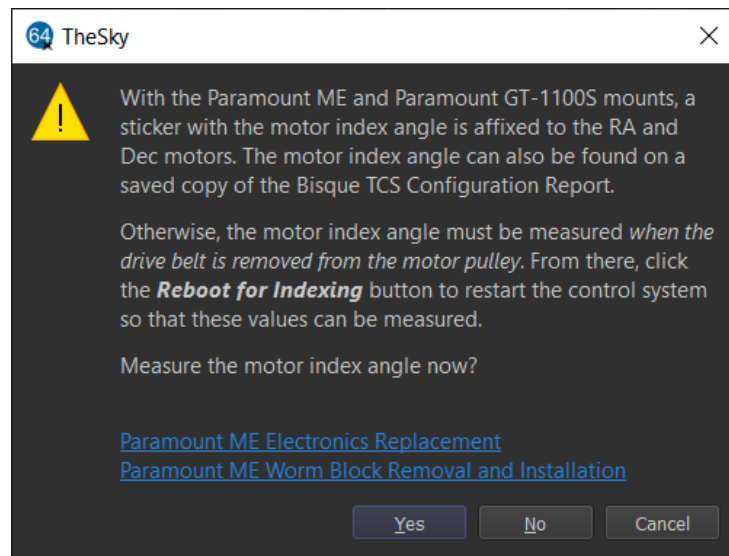

Figure 54: Prompt to measure the motor index angle.
- b. After double-checking that both axes are in the **Balance** position, click the **Measure HA Index Angle** button. When prompted, click **Yes** (Figure 54). The HA motor will rotate briefly as the motor index angle is measured, and a window showing the result is displayed.